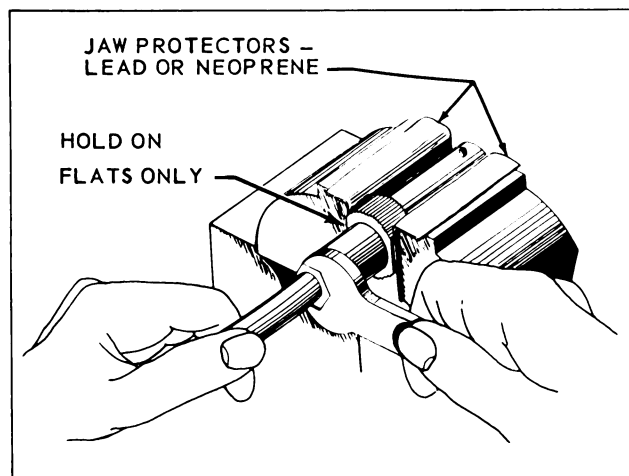
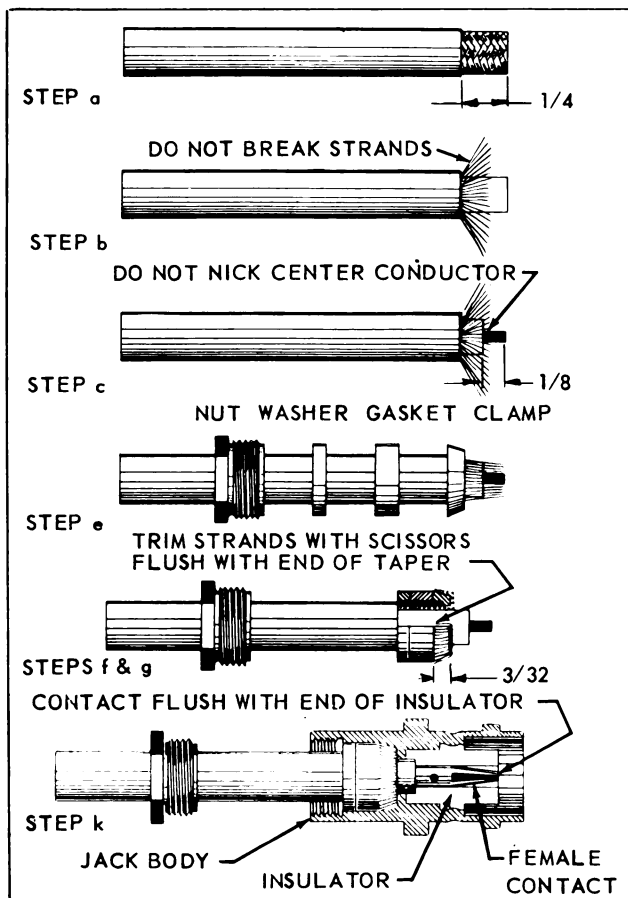

Figure 4-13. Tightening Nut into Plug or Jack Body
Figure 4-19. Attaching Standard BNC Connectors to Coaxial Cable
4-24. When assembling the connector always start the clamping nut into the body by hand, then hold the body assembly in a vise using lead or neoprene jaw protectors. See Figure 4-13. Hold body only on the flats. Do not use excessive pressure, since the body can be easily distorted. Tighten nut with end wrench.
4-31. ATTACHING STANDARD BNC CONNECTORS TO COAXIAL CABLE. When attaching standard BNC connectors to coaxial cable (see Figure 4-19), follow this procedure:
k. Push cable assembly into connector body as far as it will go. Slide nut into connector body and fasten body in vise. Start nut by hand and tighten with end wrench until moderately tight. See Figure 4-13.
k. Push cable assembly into connector body as far as it will go. Refer to Figure 4-19, step k. Slide nut into connector body and fasten body in vise. Start nut by hand and tighten with end wrench until moderately tight. See Figure 4-13.
k. Push cable assembly into connector body as far as it will go. Make sure gasket is properly seated, with sharp edge of sleeve clamp entering gasket groove. Slide nut into connector body and fasten in vise. Start nut by hand and tighten with end wrench until enough pressure is applied to make a good seal by splitting the gasket. See Figure 4-13.